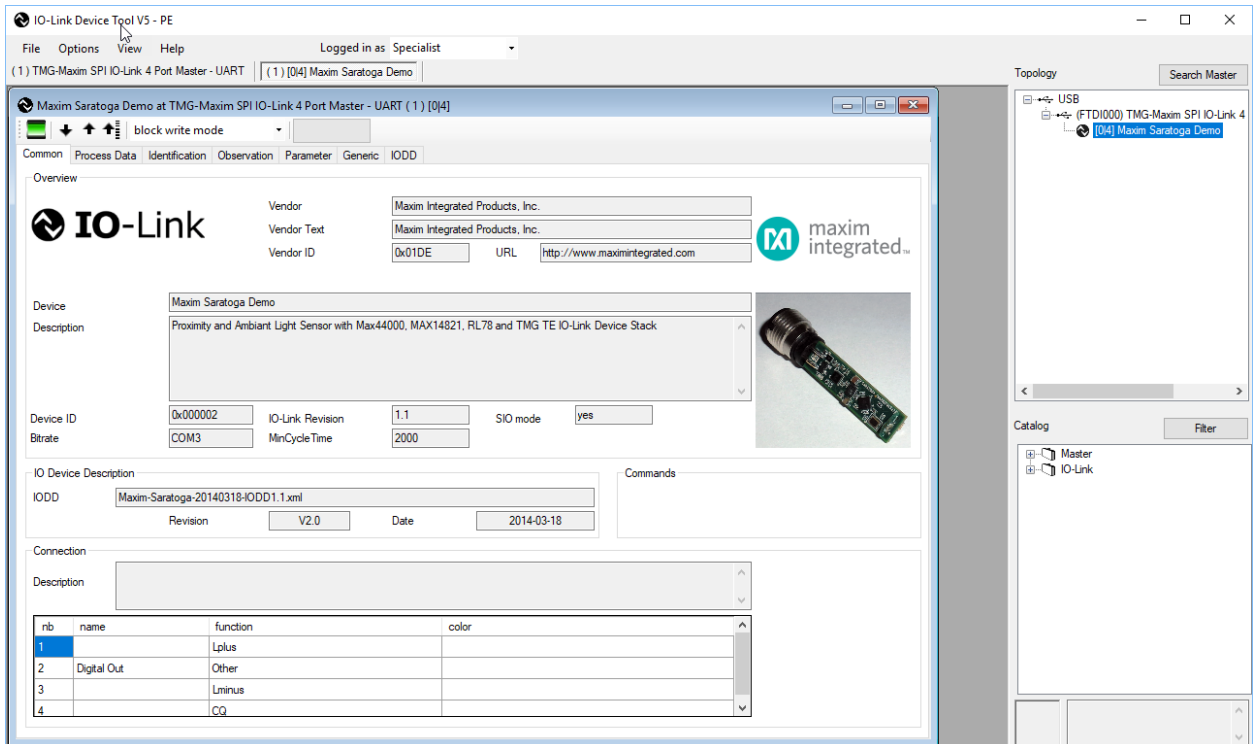

Figure 8. MAXREFDES27# IODD.
- Double click on the device to open and display the data from the MAXREFDES27# IODD file, as shown in Figure 8.